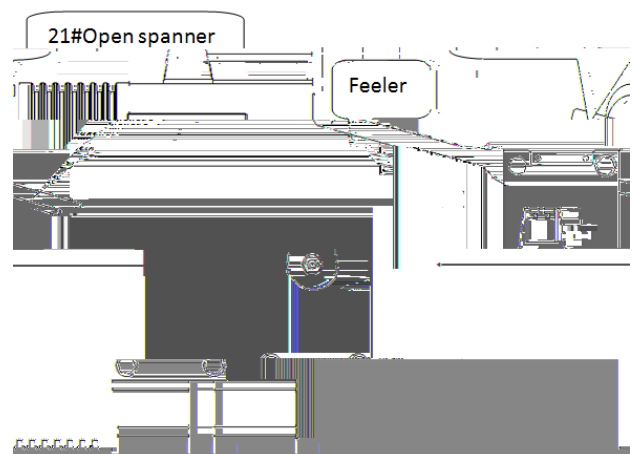

Fig. 1.4
- b) Rotate 4 guide screws counterclockwise with the 21# open spanner and test the air gap of brake while adjusting until the air gap of brake is between 0.3~0.55mm. Refer to fig.1.4.